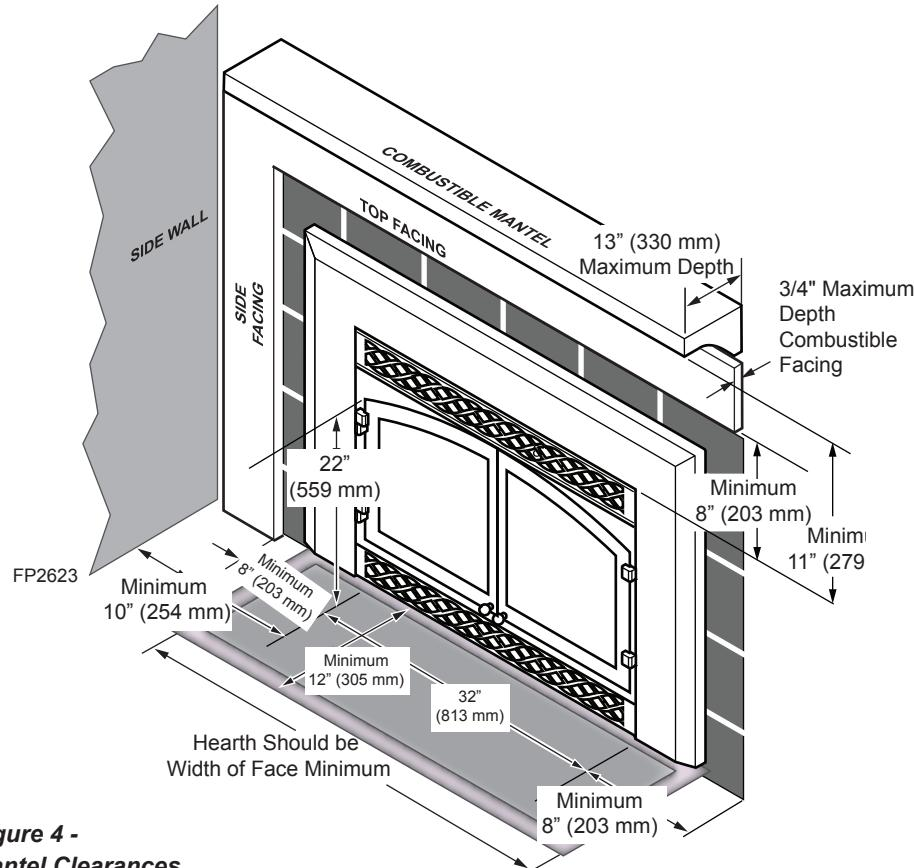

Figure 4 -
- Minimum clearances to combustibles, such as mantels, must be maintained. *Refer to Pages 8 and 9, Figures 4 and 5.*
The dimensions shown on *Pages 8 and 9, Figures 4 and 5*, are minimum clearances to maintain when installing this heater. Follow these instructions carefully to ensure safe installation. Failure to follow instructions exactly can create a fire hazard.